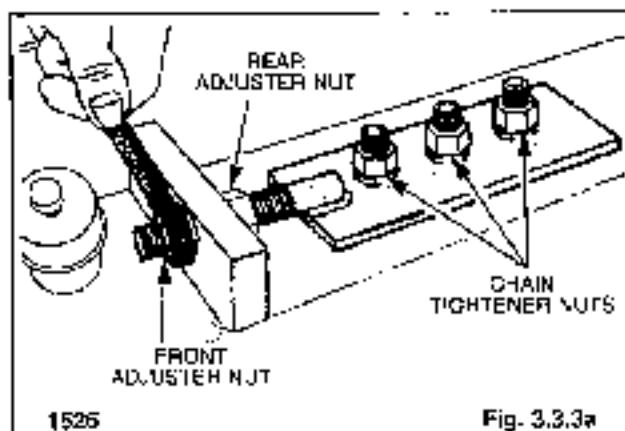

Fig. 3.3.3a
1. Loosen the three chain tightener nuts (fig. 3.3.3a). Back off the front and rear adjustment nuts and move the chain tightener plate back towards the rear of the loader.